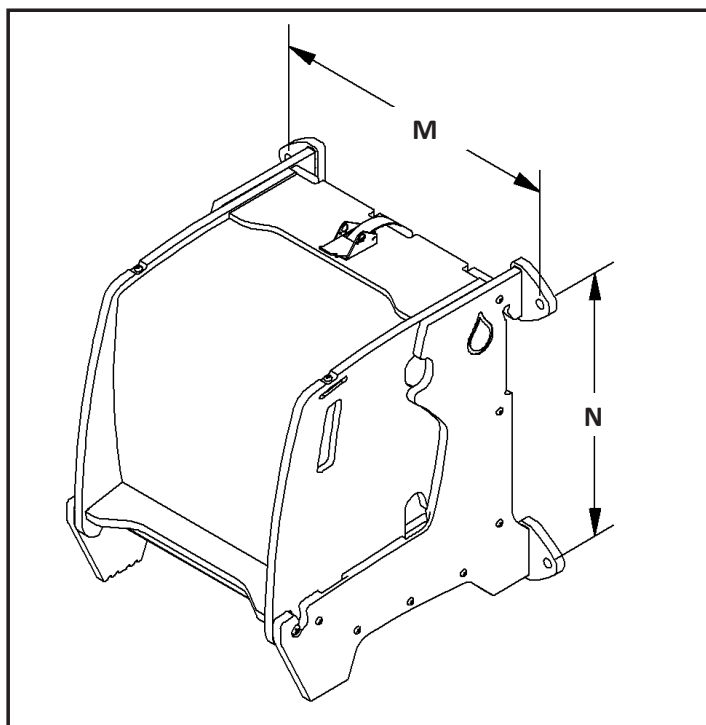

Fig. 4.2: Wall mounting dimensions
2. Attach to the wall using appropriate hardware (not included) [Figure 4.2]